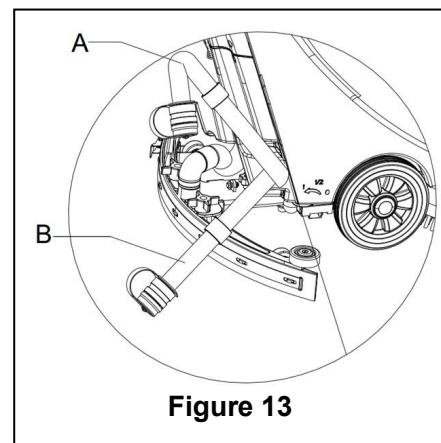

Figure 13
2. By using the squeegee handle (14), lift the squeegee.
4. Grasp the handlebar (2) and gently incline the machine backward until the guide wheel touches the floor. (For docking of the machine please refer to the procedures in the stopping of the machine section.)
5. Take off the draining hose from the fixation clip, bend the top end of draining hose (as shown in A, Figure 13), and then open the cover of draining hose, lower draining hose to a low level or on the ground to drain the water. Alternatively, directly place draining hose to a low position or on the ground to make the water outlet face downward (as shown in B, Figure 13), and then twist open the water draining lid to drain off the wastewater in the tank. After draining is completed, use pure water to cleanse the inside of recovery tank.
When draining the wastewater, the vacuum tube for waste must be folded or lowered to a lower position (as shown in Figure 13 A or B), and then open the lid of the vacuum tube for waste to drain the water. Do not make the outlet of the vacuum tube for waste face upward to drain the water vertically. This is to avoid wastewater spilling onto the operator.